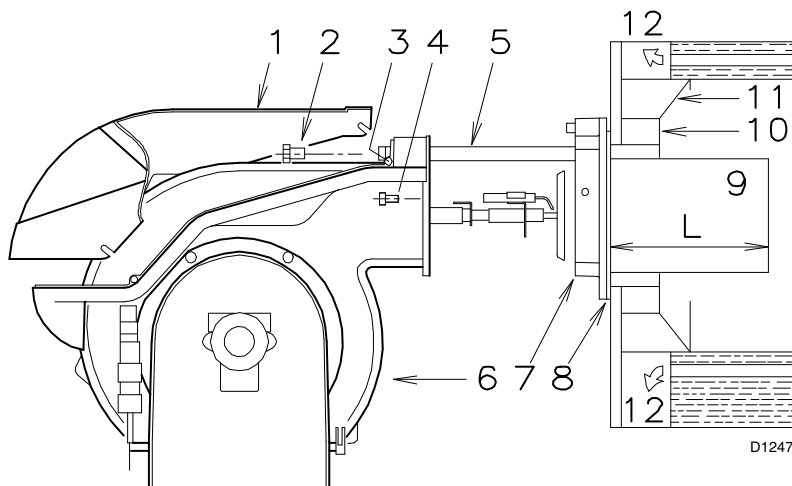

Fig. 7
For boilers having a water-cooled front the refractory fettling 10)-11) (Fig. 7) is not required unless it is expressly requested by the boiler manufacturer.
Secure flange 7) (Fig. 7) to the boiler plate interposing the supplied gasket 8) (Fig. 7). Use the 4 screws provided after having protected the thread with antiscuffing products.
- Retract the burner on its slide bars as shown in (Fig. 7 pag. 9).